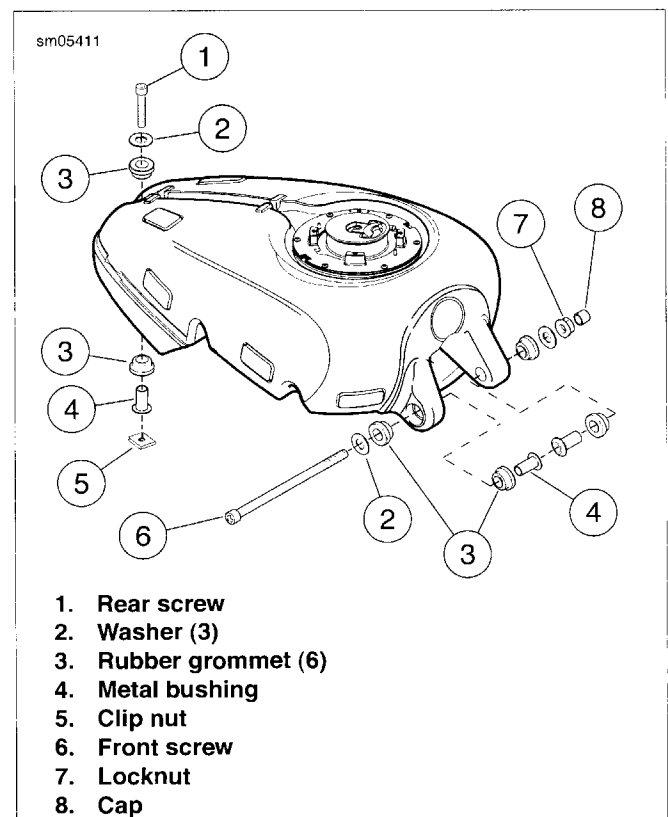

Figure 4-25. Fuel Tank Mounting
See Figure 4-25. Metal bushings (4) inside the grommets (3) may fall when fuel tank is lifted off vehicle. Make sure they do not fall out and become lost.
2. See Figure 4-25. Install rubber grommets (3) in both front mounting holes of fuel tank. Insert metal bushings (4) into rubber grommets, oriented as shown. Make certain clip nut (5) is installed on frame bracket.
4. Insert screw (6) with washer (2) through fuel tank front mounting brackets and vehicle frame. Install remaining washer and lock nut (7) on other end of screw. Do not tighten at this time.
6. Make certain metal bushing (4) is located inside rear lower rubber grommet (3) of fuel tank. Install screw (1), washer (2), and upper grommet (3) and thread into clip nut (5). Tighten to 15-20 ft-lbs (20.3-27.1 Nm).
7. Tighten front screw (6) and nut (7) to 15-20 ft-lbs (20.3-27.1 Nm).